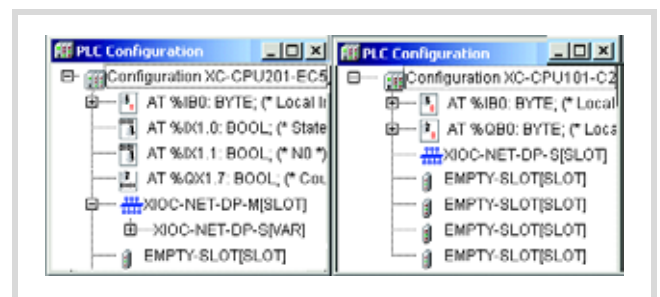

Figure 85: XC200 configuration
- First of all configure the XC200 according to Figure 85.